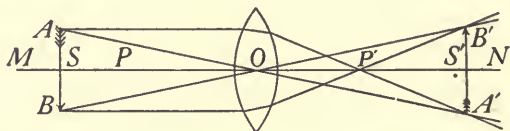

FIG. 383.—Construction of a real image by a convex lens
right angles to its greatest diameter and along this axis are certain definite positions as shown in Fig. 383. Let MN be the *principal axis* of a convex lens, P and P' are *principal foci* on either side of the lens, S and S' are *secondary foci*. These are at points on the principal axis that are twice as far from O , the center of the lens, as are the principal foci. In the formation of images by a convex lens, several distinct cases may be noticed:
(A) If a luminous body is at a *great distance* at the left, its light is brought to a *focus* at P , or its *image is formed at P* . (B) As the *object approaches* the lens, the *image gradually recedes* until the object and image are at S and S' , *equally distant from O and of equal size* (as in Fig. 383). The object and image are now said to be at the *secondary foci* of the lens. (C) As the *object moves from S to P* the image recedes, rapidly increasing in size until (D) when